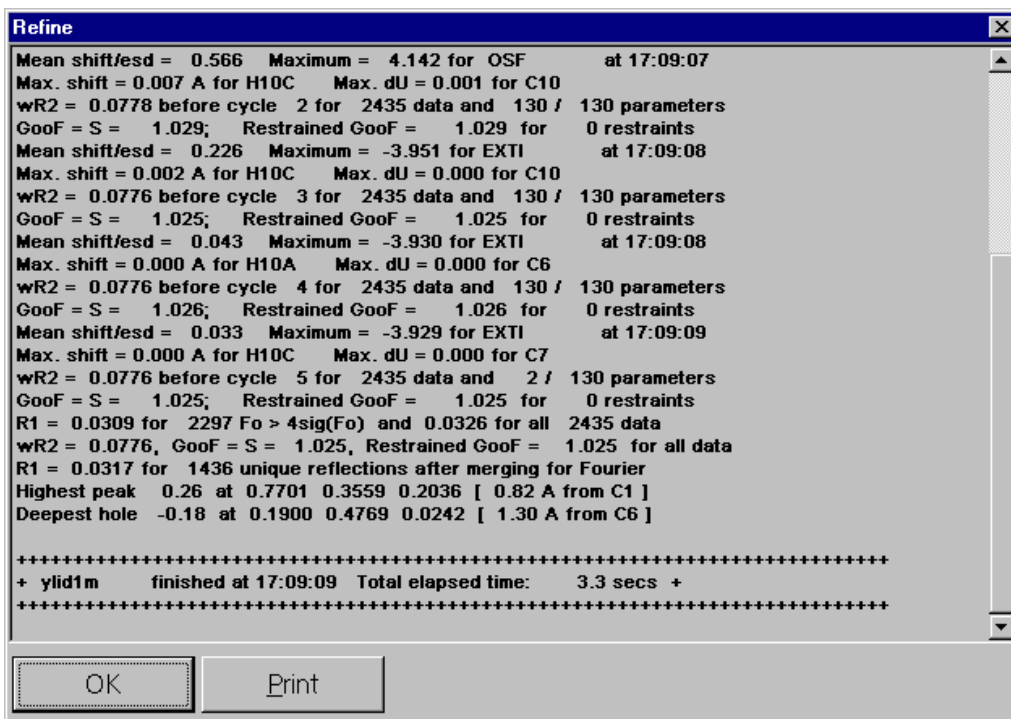

Figure 6-38. Least-squares refinement
45. Check the Acta box to create .cif files for publication. Click OK to launch the XL (least-squares refinement) program (Figure 6-38).